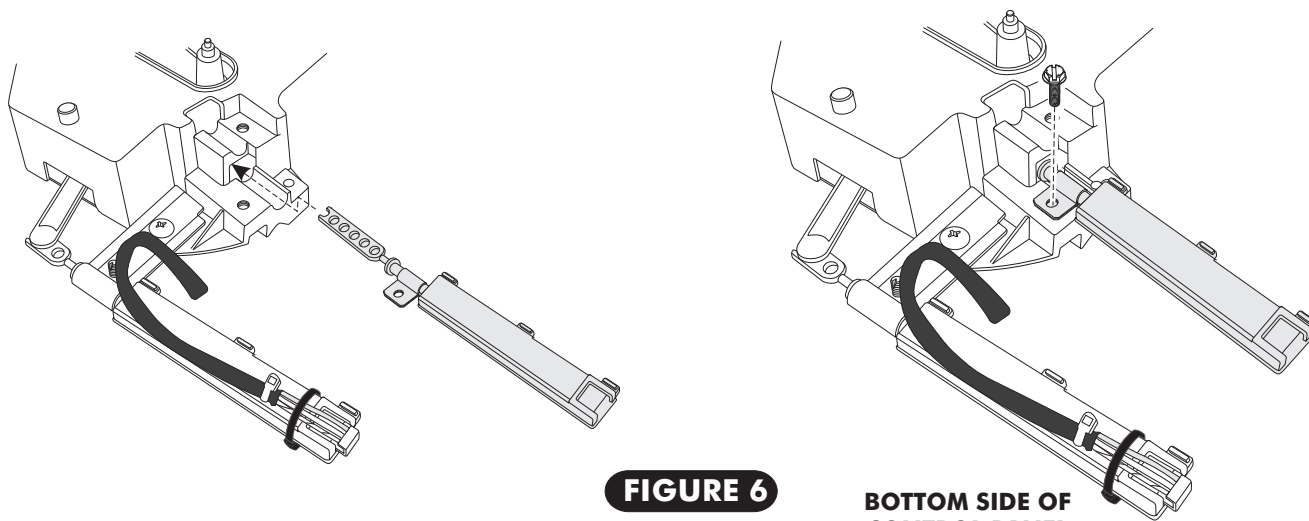

FIGURE 6
- INSTALL SLIDE POT ASM ON THE COLD/HOT LEVER. SEE FIGURE 6 BELOW.
- INSTALL SLIDE POT LEVER PUSH ROD ON TO OEM CABLE MOUNTING STUD ON LEVER. SEE FIGURE 6 BELOW.
- SECURE THE SLIDE POT ASM TO THE CONTROL PANEL USING THE OEM SCREW IN THE OEM CABLE CLAMP MOUNTING LOCATION. SEE FIGURE 6 BELOW.
- SECURE SLIDE POT LEVER PUSH ROD ON TO OEM CABLE MOUNTING STUD USING 3/16 PUSH-ON RING AS SHOWN IN FIGURE 6 BELOW.